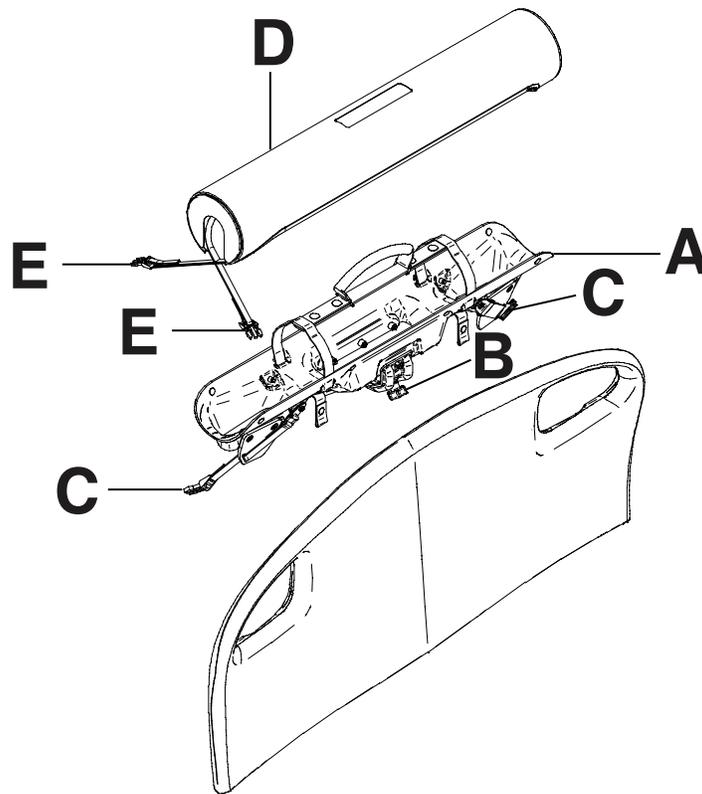

Figure 85: Right fit oxygen bottle holder
1. Place the oxygen bottle holder on top of the headboard (A) (Figure 85 on page 84).
2. Screw on the oxygen bottle holder clasp onto the headboard (B) (Figure 85 on page 84) to secure the bottle holder to the product.
3. Route the bottom straps (C) through the headboard handles (Figure 85 on page 84).
6. Place the oxygen bottle holder cover on top of the oxygen bottle (D) (Figure 85 on page 84).
7. Fasten the oxygen bottle holder cover straps together (E) (Figure 85 on page 84).